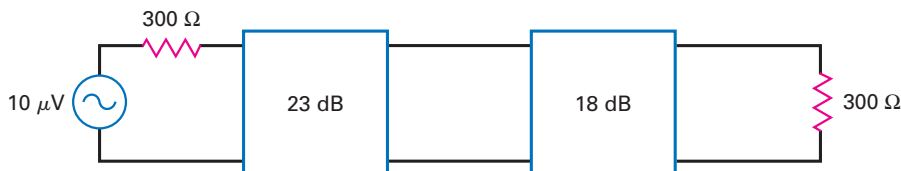

Figure 34-24
- 34.15 If Fig. 34-24 is an impedance-matched system, what is the total decibel voltage gain? The decibel voltage gain of each stage?
- 34.16 If the stages of Fig. 34-24 are impedance-matched, what is the load voltage? The load power?